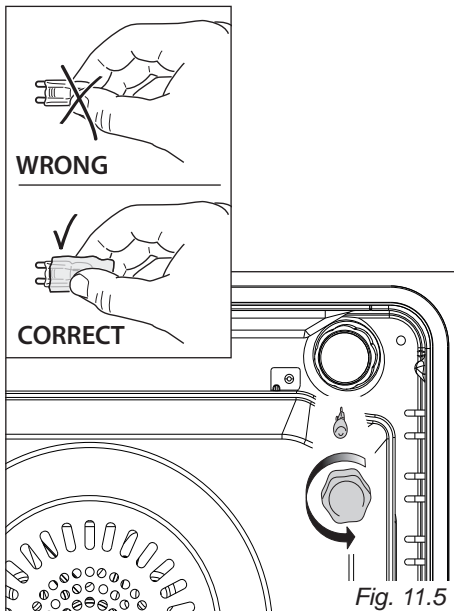

Fig. 11.5
- Remove the protective cover (fig. 11.5 - 11.6).